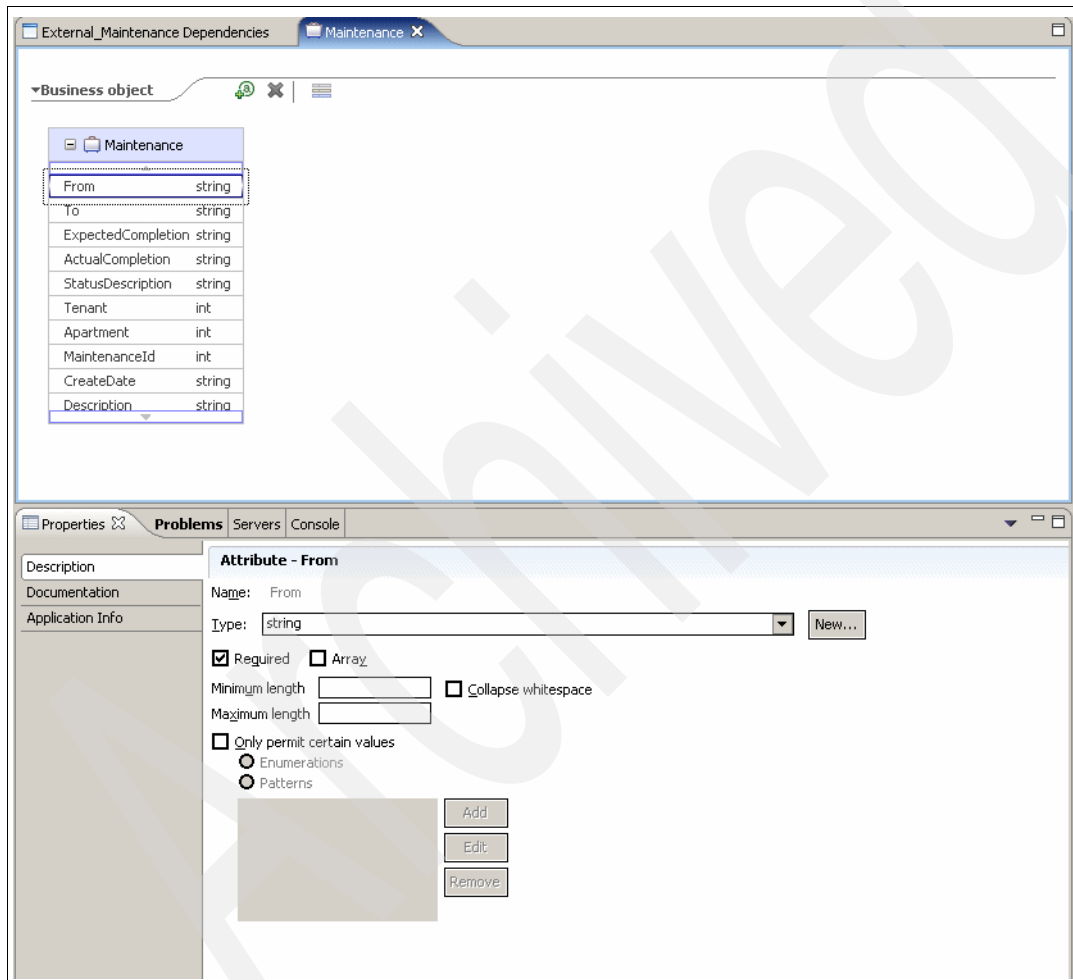

Figure 2-14 Attributes
6. We check that the data type was correctly imported and that only the following elements are set as mandatory (Figure 2-14):